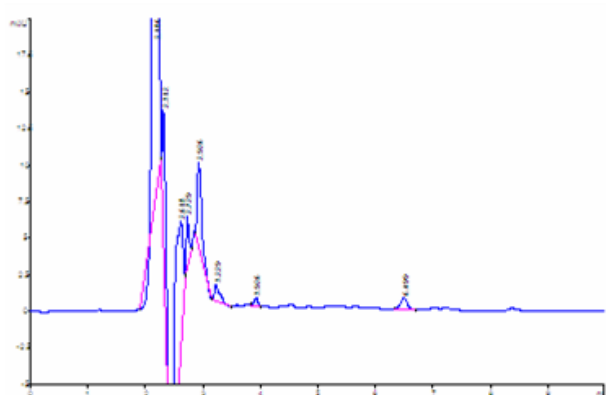

Figure 10. Chromatogram of blank egg sample
A) Figure 10 shows the chromatogram of blank egg sample.